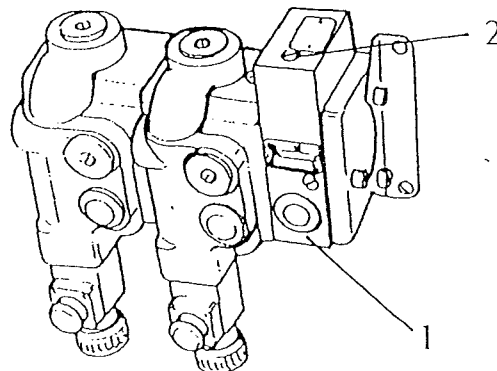

Fig 5.8
The screw (Fig 5.8 item 2) is located in the upper face of the front end section (Fig 5.8 item 1) of the hydraulic valve bank, which is mounted on the right hand side of the main frame half way along.